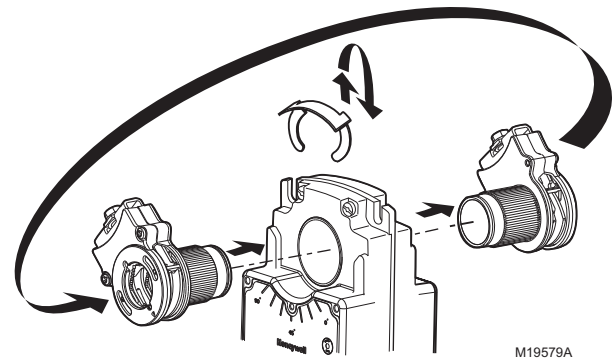

Fig. 33. Mounting shaft coupling to actuator opposite side.
- (1) Reposition reverse/direct acting switch, or
- (2) Remount actuator on the bracket.
- d. Move the actuator coupling to the opposite side of the actuator, as displayed in Fig. 33.